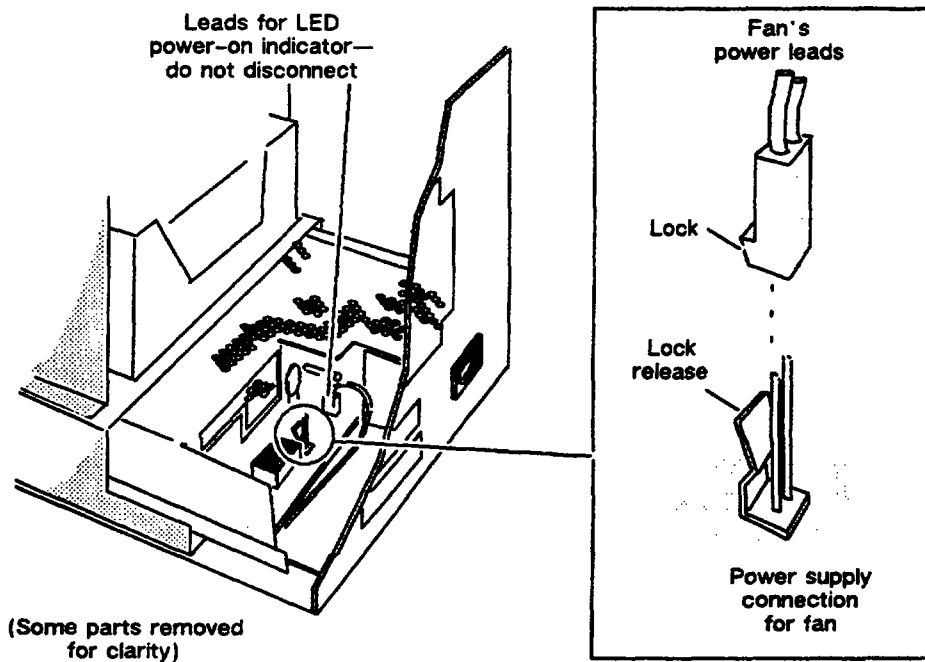

Figure 4-14 Disconnecting or Connecting the Fan's Power Leads
4. Disconnect the fan's power leads from the power supply, as shown in Figure 4-14.
8. Connect the fan's power leads to the power supply. Refer to Figure 4-14.
2. With the cover removed, disconnect the fan's power leads from the power supply. Refer to Figure 4-14.
9. Plug the fan's power leads into the power supply. Refer to Figure 4-14 for the location of the connector for the fan's power leads.